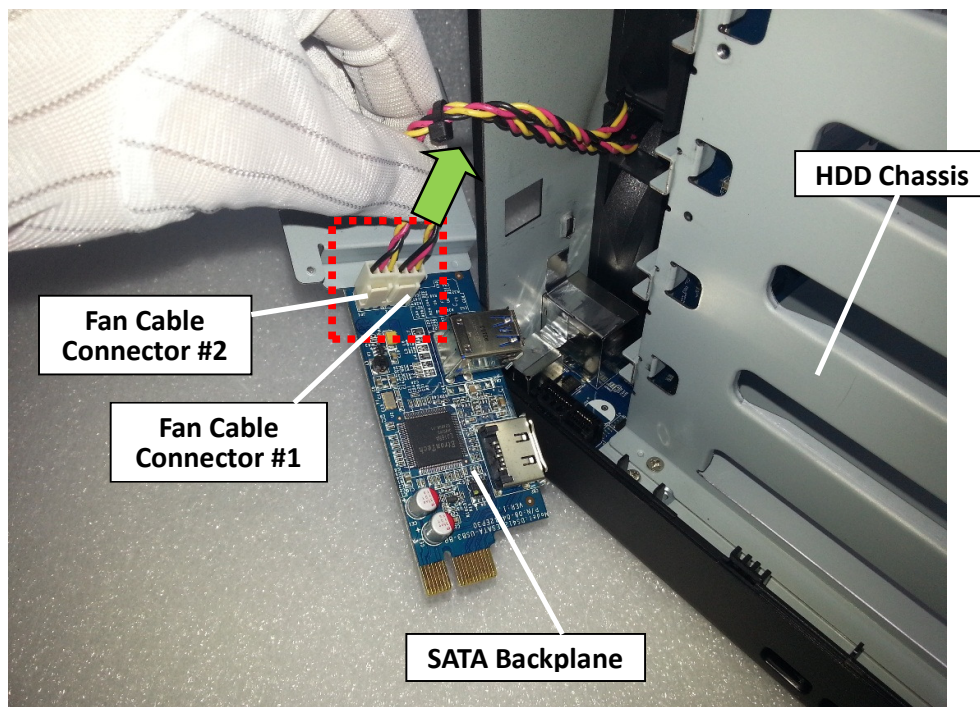

Fig. 16
2.1.10 Unplug the two (2) fan cable connectors (Marked by the red rectangle) which attach to the SATA backplane. (Fig. 16)